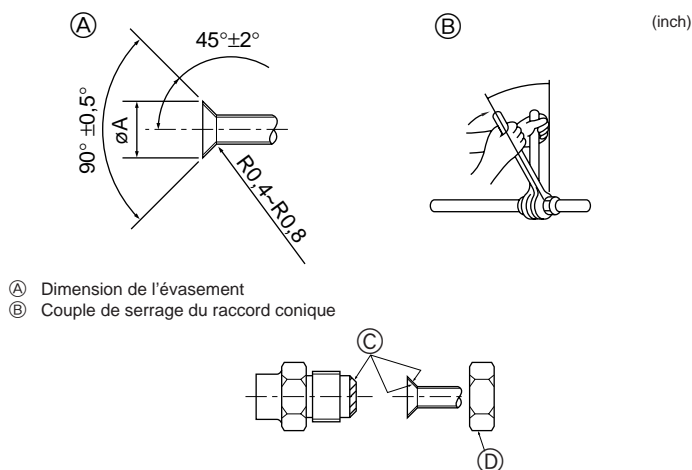

Fig. 4-2
(A) (Fig. 4-2) (mm [inch])
(B) (Fig. 4-2)
4.2. Connexion des tuyaux (Fig. 4-2)